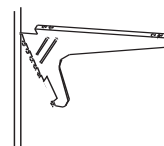

FIG. 1
1. Cantilever brackets are attached to the panels by inserting the teeth along the rear edge into the slotted trimrail on the panel. Cantilever brackets are height adjustable in 1" increments. Each worksurface will be supported by at least (2) cantilever brackets (1 left, 1 right).
4. Holding the front edge of a left hand cantilever bracket (stamped with an "L") higher than the rear edge with the teeth, slide the top safety tooth into the trimrail slot you located in step 3 (Figure 1).
1. Attach support panel bracket to top of worksurface support panel with (4) #14 x 3/4" tapping screws into the pre-drilled holes (Figure 1).